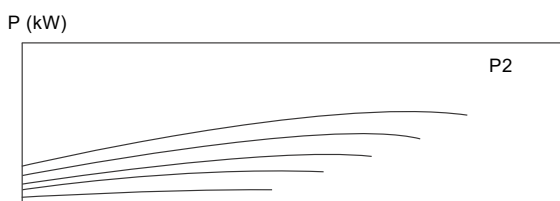

Fig. 116 QP curve for variable speed pump for reading P2 at low flow
4. Read out power (P2) and speed (n) as low limit values. See fig. 116.
6. Read out power (P2) and speed (n) as high limit values. See fig. 116.